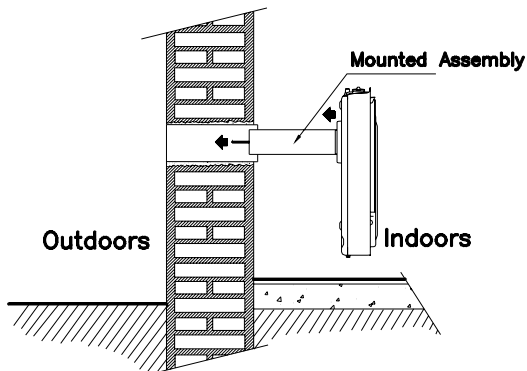

Fig. 11
- Position the heater in the vent air intake pipe, and fix the appliance with the screws (Fig. 11).